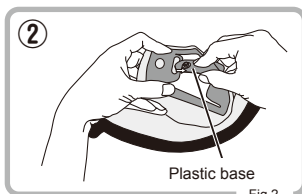

Fig.2
- ② Take out the plastic base at the back side of the cheek pad as shown in Fig.2.
- ③ Take out the inner foam.